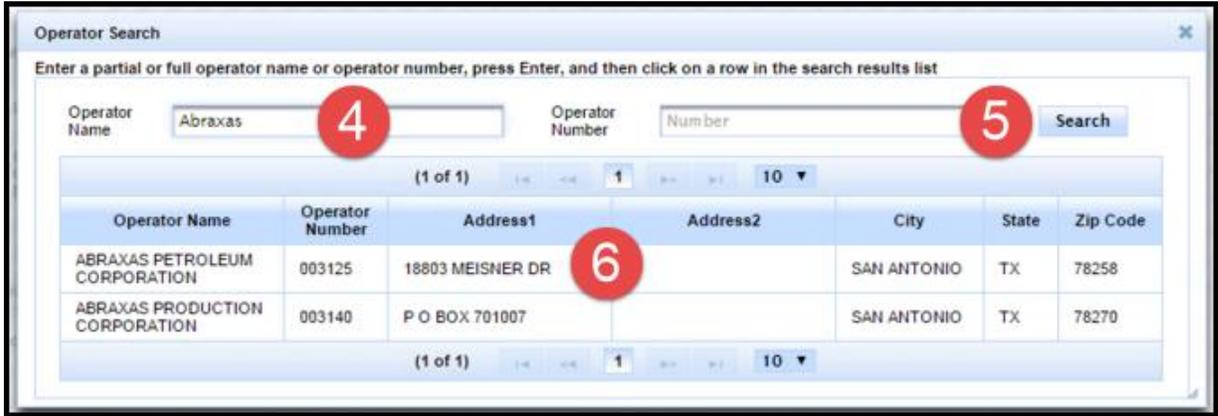

Figure 123: Permit Transfer, Steps 4 – 6
- Click the **Search Operator** tab. The **Operator Search** pop-up window appears, as depicted in Figure 123.